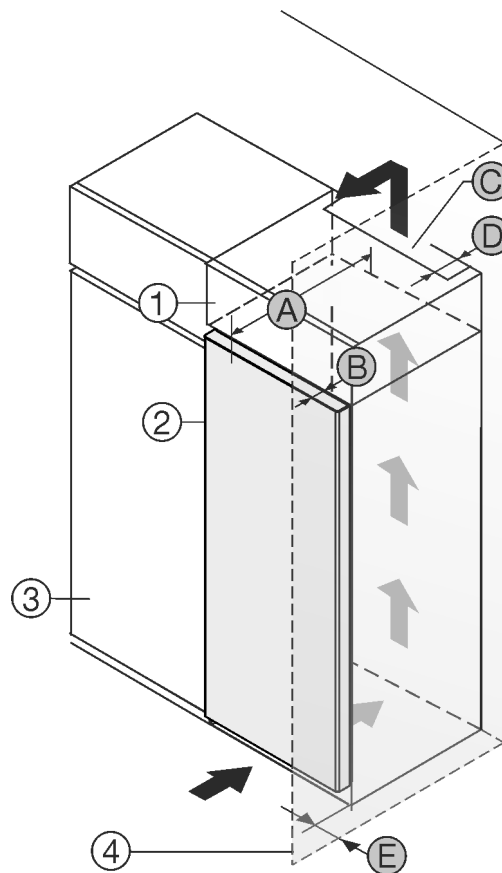

Fig. 1
- (1) Top cupboard*
- (2) Appliance*
- (3) Kitchen cabinet*
- (4) Wall*
- (A) Appliance depth*
- (B) Door depth*
- (C) Ventilation cross section*
- (D) Distance to the back of the appliance*
- (E) Distance to the side of the appliance*
You can place the appliance directly beside the kitchen cabinet Fig. 1 (3).
There must be a ventilation shaft at the depth Fig. 1 (D) of the back of the top cupboard over the entire width of the top cupboard.*
The ventilation cross-section Fig. 1 (C) must be maintained under the ceiling.*
If the appliance is set up with the hinges next to a wall Fig. 1 (4), the distance between the appliance and the wall must be at least 13 mm.*
If the appliance is set up with the hinges next to a wall Fig. 1 (4), the distance between the appliance and the wall must be at least 20 mm.*
In order to be able to fully open the door, the appliance must protrude by the depth of the door Fig. 1 (B) from the front of the kitchen cabinet. The appliance may protrude further depending on the depth of the kitchen cabinets Fig. 1 (3) and whether wall spacers are used.*